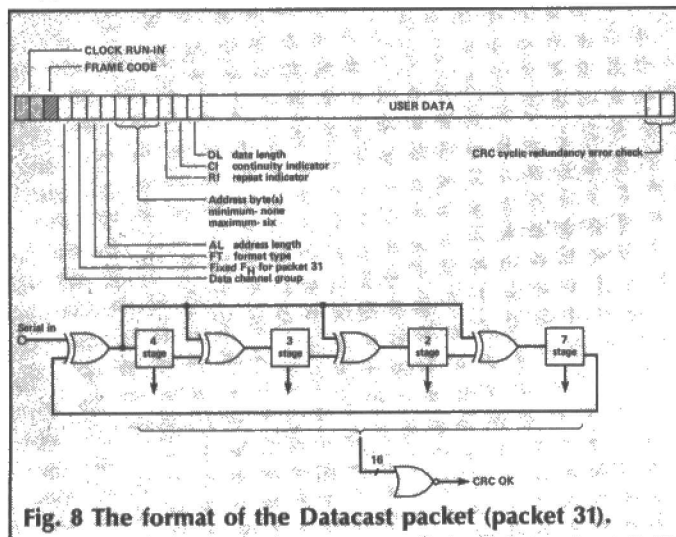

Fig. 8 The format of the Datacast packet (packet 31).
Figure 8 shows the contents of the Datacast packet (packet 31). Individual receivers may be addressed using an address field which is up to six bytes long giving a 24-bit address. The packet is further identified within the users data stream by the continuity indicator (CI) and repeat indicator (RI). The RI gives the number of a packet, which has been repeated, within the set of repeats. The RI is modulo 16 and uses the lowest four bits of the byte. The CI is used to check that no packets have been missed out in case of poor signal quality. It is a modulo 256 number incremented for each new packet.